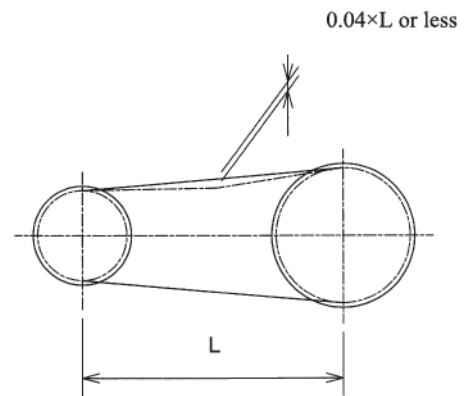

Fig. 3 Deflection amount of chain
- (2) Adjust the deflection amount of the chain to 4% of the span (refer to Fig.3). If the deflection amount is too large, a considerable shock may occur when starting, and the geared motor may be damaged by the shock.
The brake torque can be adjusted by the spacers used with the brake torque adjusting bolts as shown in the structure drawing Fig. 3.